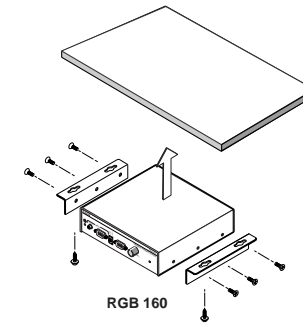

Figure 2-10 — Attaching the under desk brackets
1. Attach the mounting brackets to the interface using six machine screws supplied with the mounting kit (figure 2-10).